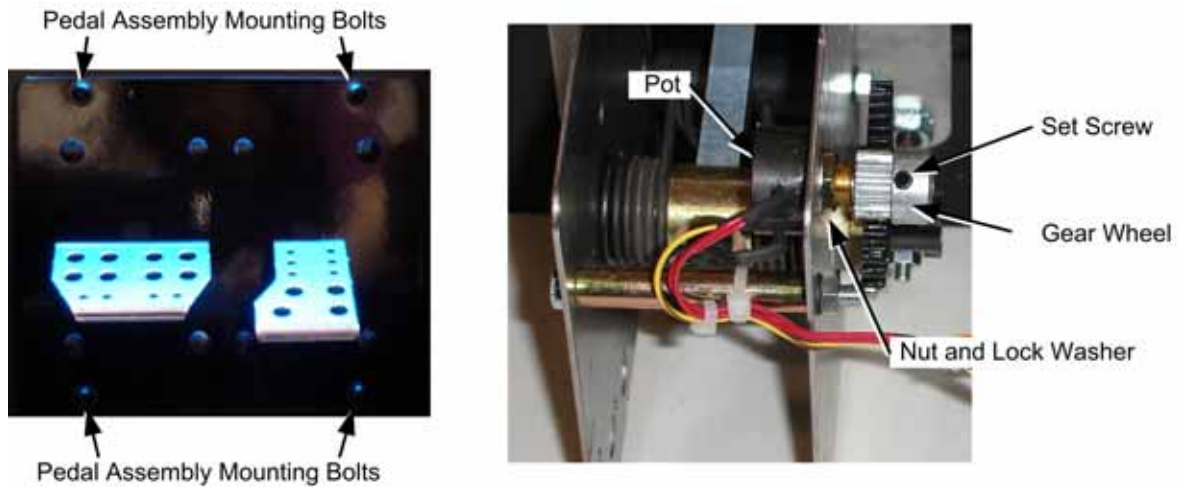

Figure 21. Pedal Assembly Details
To replace a pot, refer to Figure 21 and perform the following steps:
2. Using a 7/64 Allen wrench, loosen the set screw from the gear wheel and remove the gear wheel, as shown in Figure 21.